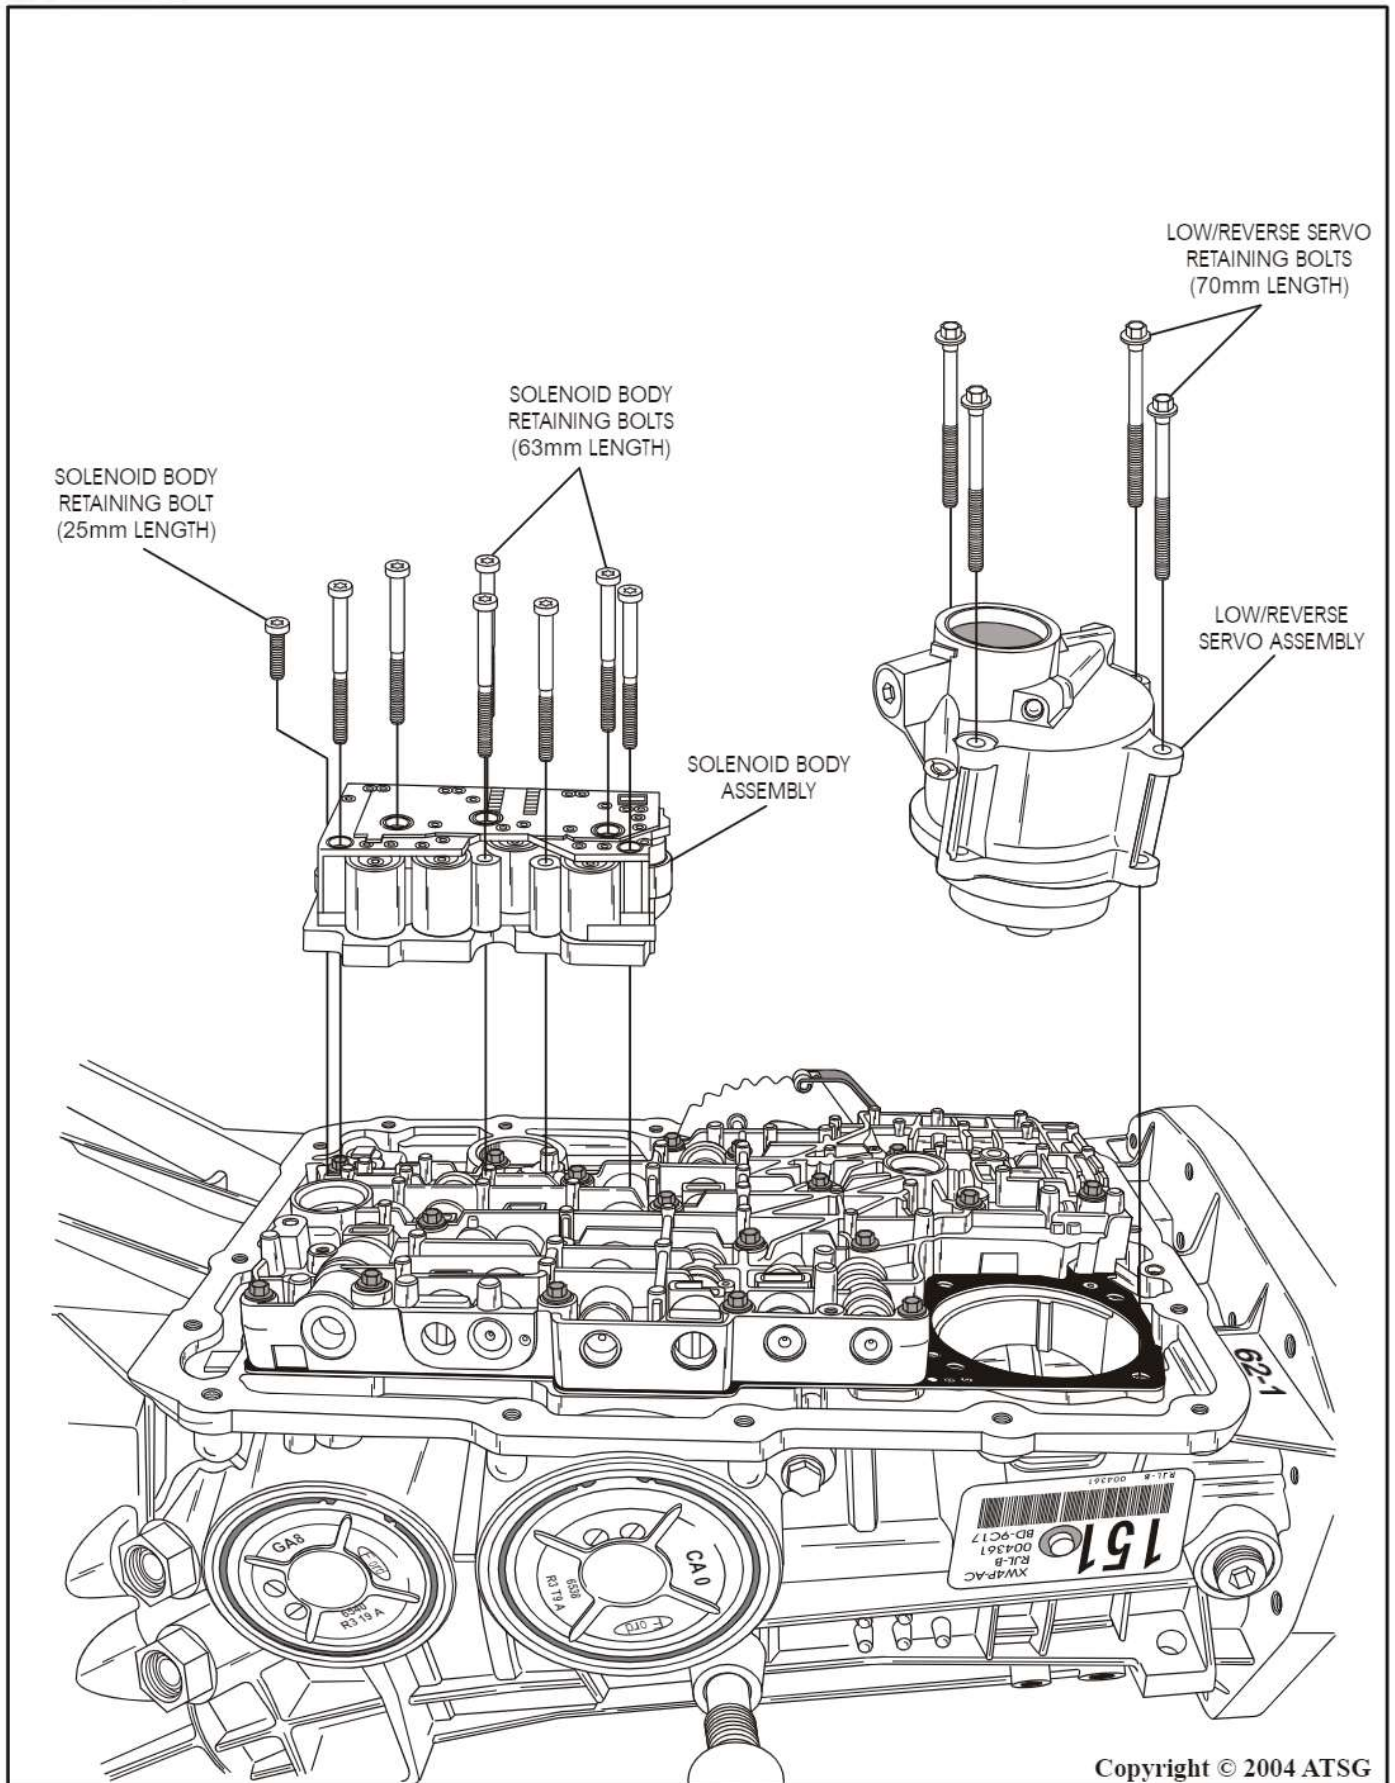

Figure 174
74. Install the pre-checked solenoid body assembly onto transmission, as shown in Figure 174, and finger tighten only at this time.
75. Install pre-assembled reverse servo assembly onto spacer plate, as shown in Figure 174, and finger tighten only at this time.